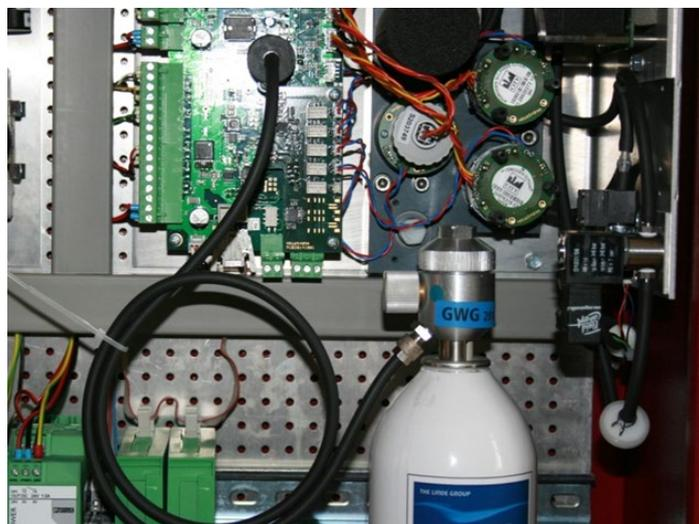

Fig.1
- ▶** Put the calibration adapter on the LEL sensor (see fig.1 here in a biogas unit).